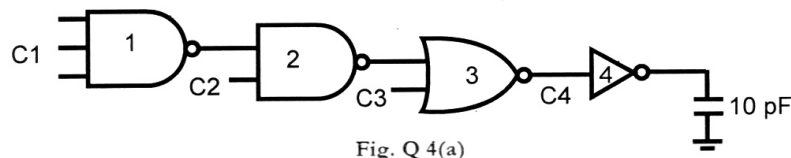

Fig. Q 4(a)
- 4 a. Determine the optimum path delay for the logic cascade chain shown in Fig. Q 4(a). Also, compute the input capacitance C2, C3 and C4. Ignore p and q of each stage. Assume logical ratio, r = 2, C1 = 1 pF. 10